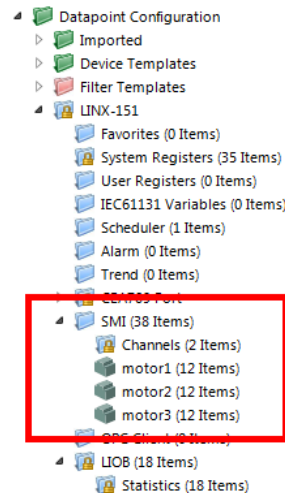

Figure 166: Data Point Manager with SMI device folders.
- The folder list (Figure 166),